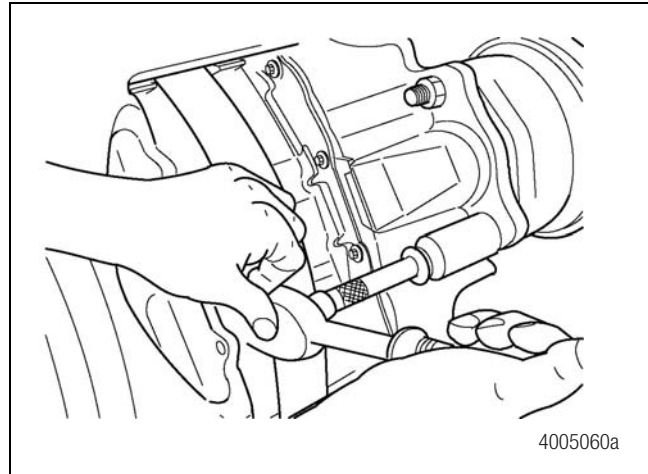

Figure 6.1
1. If the caliper has a spring chamber, carefully cage and lock the spring. Follow the chamber manufacturer's instructions to completely release the brake. Use the correct wrench to remove the air chamber nuts and washers. Figure 6.1. Remove the air chamber assembly from the brake caliper and inspect the air chamber. Refer to Section 8.